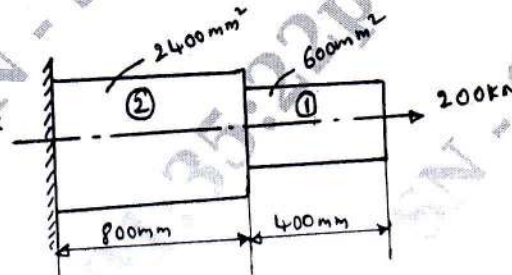

Fig Q4
- 4 A stepped bar as shown in Fig Q4. Determine the nodal displacement and stresses at each node. Take $E = 2 \times 10^5 \text{ N/mm}^2$.